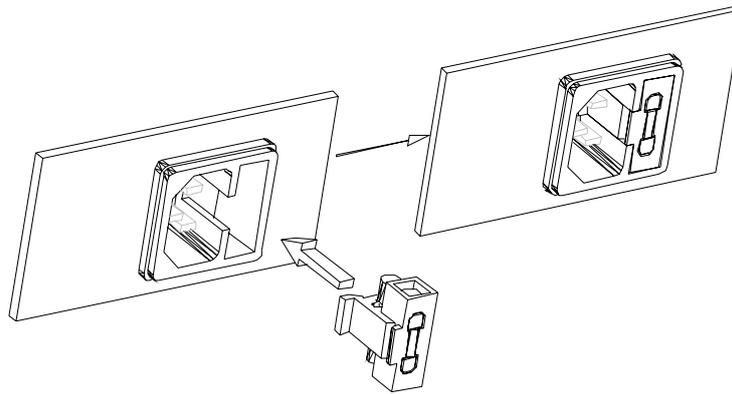

Figure 3-8b STEP 2
2. As shown in Figure 3-8b, insert the fuse holder into AC power outlet.